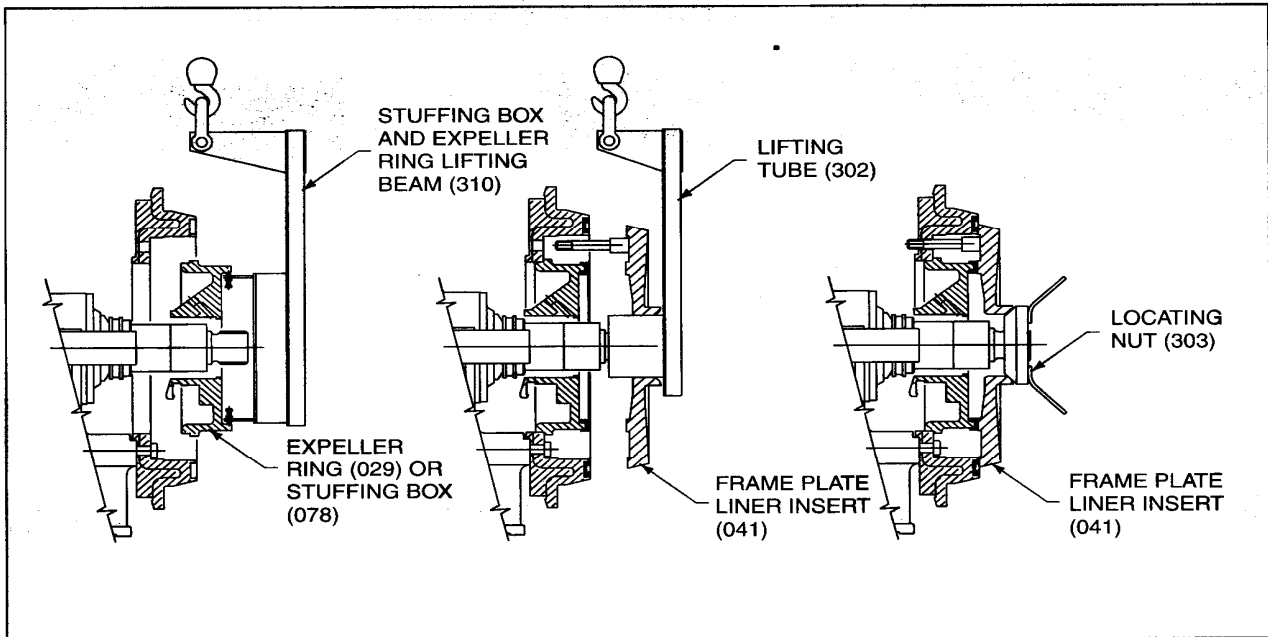

Figure 6-19 • Lifting Beam, Lifting Tube and Positioning Nut
1. Screw and tighten STUDS (026) in tapped holes provided in the frame plate liner insert. **Note:** that this step is not required on the 3/2 CAHU, 4/3 CAHU, and the 4/3 DAHU.
2. Suspend LIFTING TUBE (302) from a hoist as shown in *Figure 6-19*. Stand the frame plate liner insert on edge and push the lifting tube into the insert hole. Lift the tube with the insert and slide the lifting tube over the shaft thread. Line up studs or bolts with the holes and push line insert against the adaptor plate.